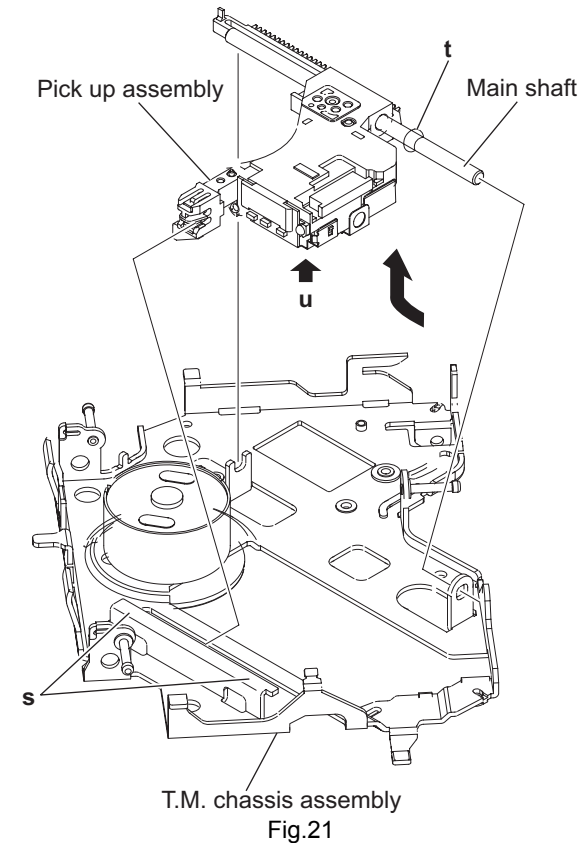

Fig.21
3.2.13 Removing the pickup assembly (See Fig.21 to 22)
- Do not touch section **u** on the pickup assembly. (See Fig.21 and 22.)
- From the bottom side of the T.M chassis assembly, move the pickup assembly in the direction of the arrow from the T.M chassis assembly. (See Fig.21.)
- Pull out the main shaft. (See Fig.21.)
When attaching the loading motor, apply grease to the sections **s** and **t**. (See Fig.21.)